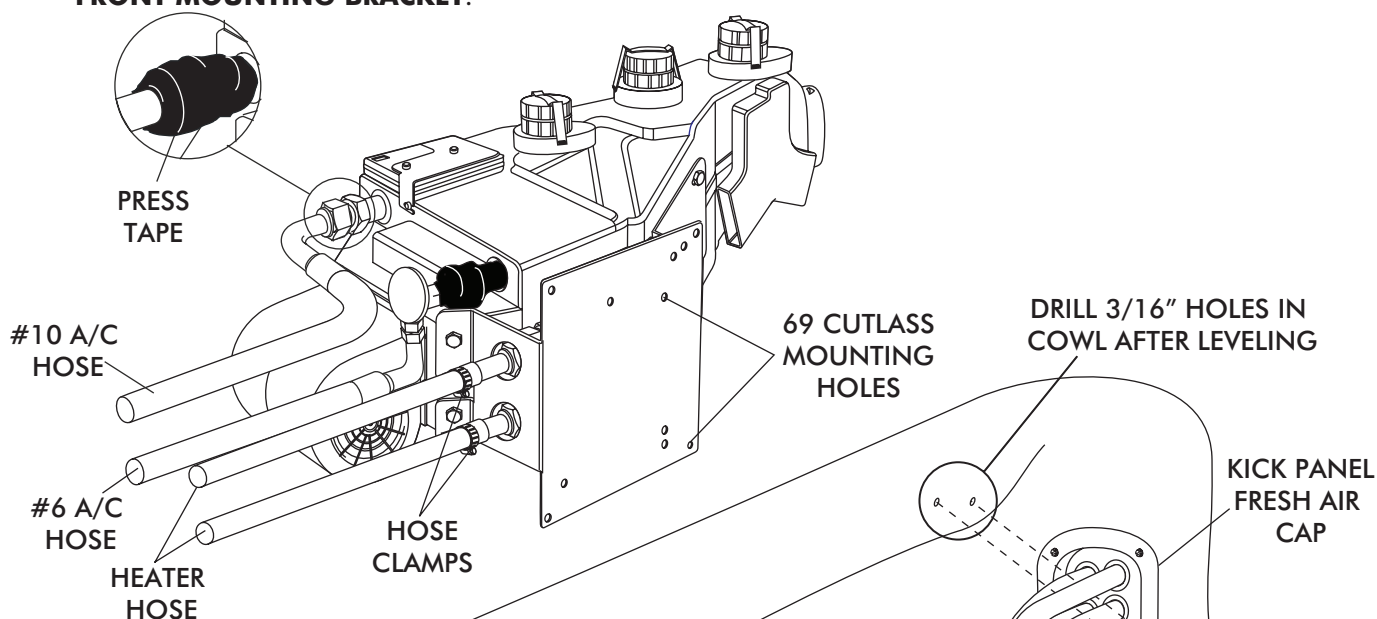
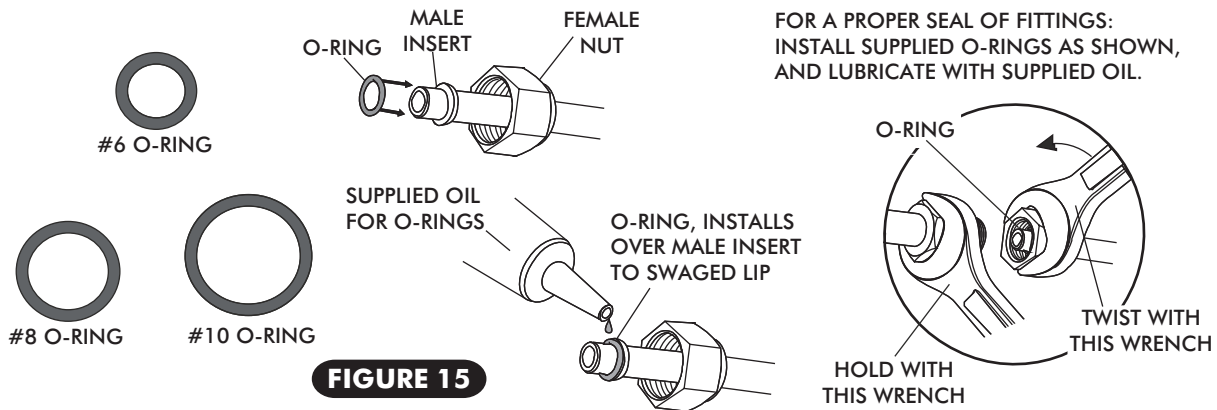
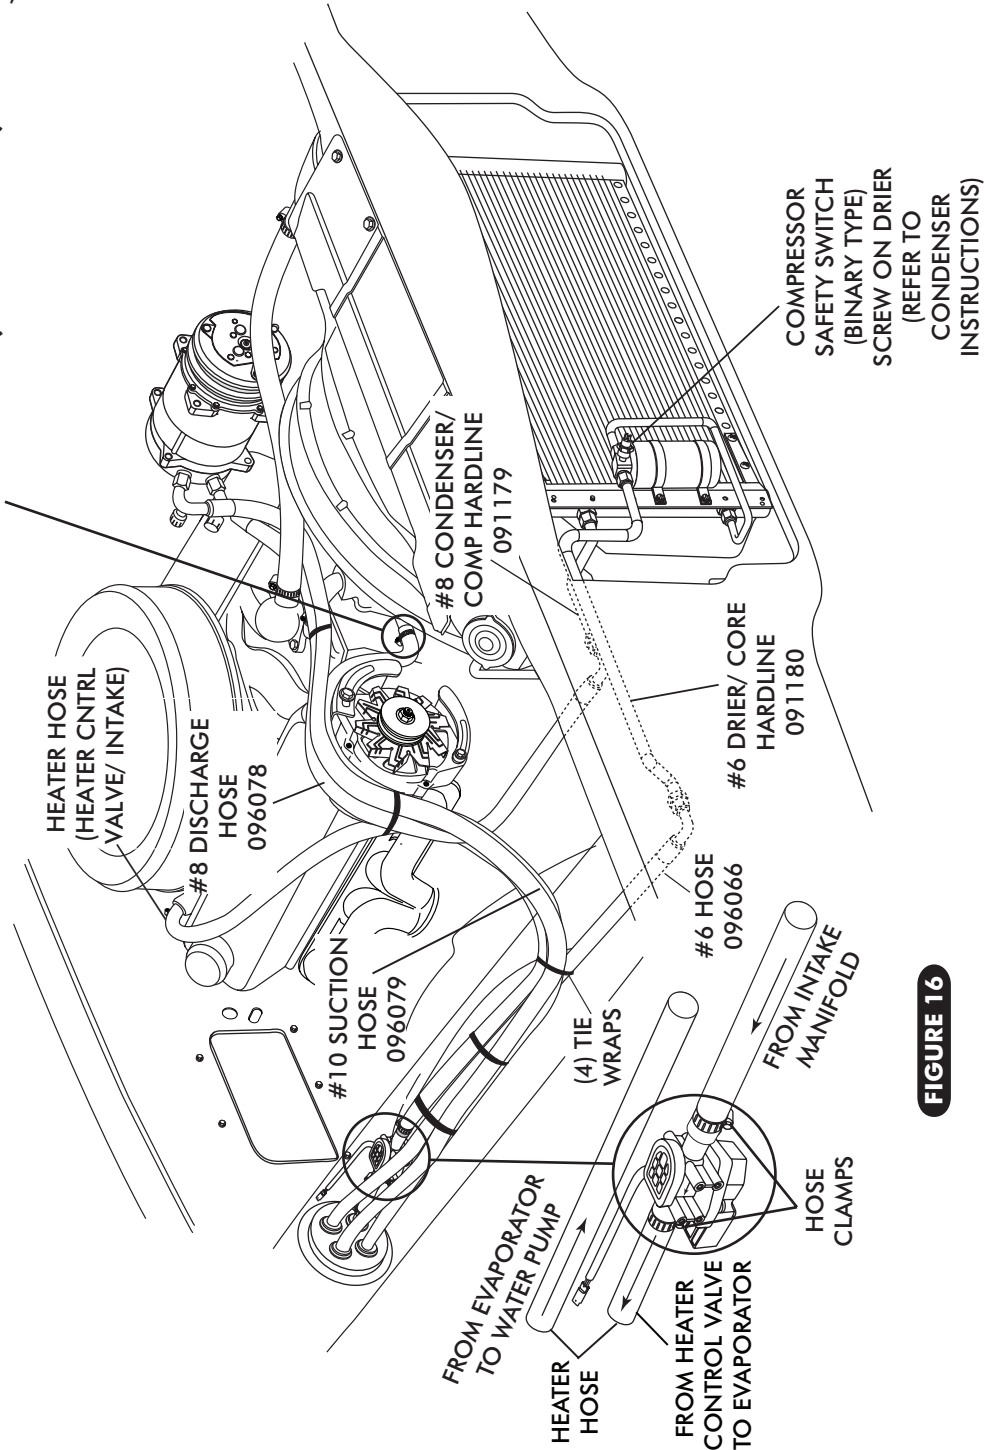

FIGURE 12
FIGURE 15
FIGURE 16
- ON A WORKBENCH, INSTALL (2) HEATER FITTINGS WITH PROPERLY LUBRICATED O-RINGS (SEE FIGURE 15, PAGE 14, AND FIGURE 11 PAGE 12).
- LAY EVAPORATOR SUB CASE ON PASSENGER SIDE FLOOR BOARD. INSTALL A/C & HEATER HOSE ON EVAPORATOR AS SHOWN IN FIGURE 15, PAGE 14, AND FIGURE 12, PAGE 13.
- **NOTE: WRAP THE #10 FITTING CONNECTIONS WITH PRESS TAPE. SEE FIGURE 12, PAGE 13.**
- LOCATE THE #8 COMPRESSOR A/C HOSE. LUBRICATE (2) #8 O-RINGS (SEE FIGURE 15, ABOVE) AND CONNECT THE 45° FEMALE FITTING w/ 134a SERVICE PORT TO THE #8 DISCHARGE PORT ON THE COMPRESSOR. ROUTE THE 90° FEMALE FITTING TO THE #8 CONDENSER HARDLINE COMING THROUGH CORE SUPPORT. SEE FIGURE 16, PAGE 15. TIGHTEN EACH FITTING CONNECTION AS SHOWN IN FIGURE 15 ABOVE.
- LOCATE THE #10 COMPRESSOR A/C HOSE. LUBRICATE (2) #10 O-RINGS (SEE FIGURE 15, ABOVE) AND CONNECT THE #10 135° FEMALE FITTING w/134a SERVICE PORT TO THE #10 SUCTION PORT ON THE COMPRESSOR. ROUTE THE 90° FEMALE FITTING TO THE #10 EVAPORATOR. SEE FIGURE 12 PAGE 13 AND FIGURE 16, PAGE 15. TIGHTEN EACH FITTING CONNECTION AS SHOWN IN 15 ABOVE.
- LOCATE THE #6 EVAPORATOR A/C HOSE. LUBRICATE (2) #6 O-RINGS (SEE FIGURE 15 , ABOVE) AND CONNECT THE 90° FEMALE FITTING TO THE #6 HARDLINE COMING THROUGH THE CORE SUPPORT FROM DRIER. ROUTE THE 90° FEMALE FITTING TO THE #6 EVAPORATOR. SEE FIGURE 12, PAGE 13 AND FIGURE 16 PAGE 15. TIGHTEN EACH FITTING CONNECTION AS SHOWN IN FIGURE 15, ABOVE.
- ROUTE A PIECE OF HEATER HOSE FROM THE WATER PUMP TO THE TOP HEATER FITTING OF HEATER CORE AS SHOWN IN FIGURE 12, PAGE 13 AND FIGURE 16, BELOW. SECURE USING HOSE CLAMPS.
- ROUTE A PIECE OF HEATER HOSE FROM THE INTAKE TO THE BOTTOM HEATER FITTING OF HEATER CORE AS SHOWN IN FIGURE 12, PAGE 13, AND FIGURE 16, BELOW. INSTALL HEATER CONTROL VALVE IN LINE WITH INTAKE MANIFOLD (PRESSURE SIDE) HEATER HOSE. SECURE USING HOSE CLAMPS AS SHOWN IN FIGURE 16, BELOW. **NOTE PROPER FLOW DIRECTION.**